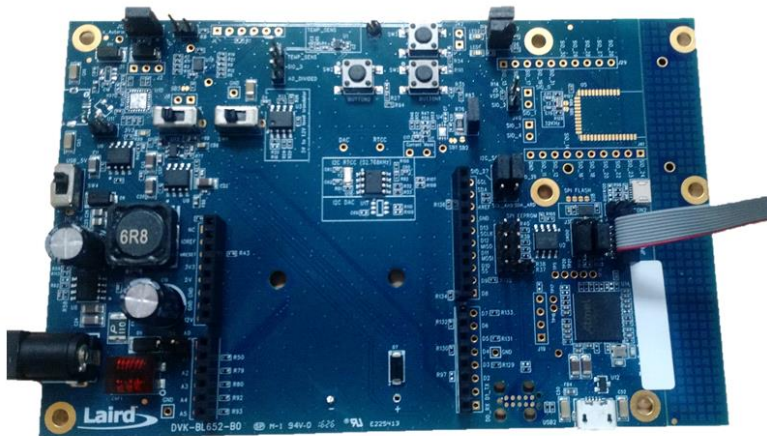

Figure 9: QPK-NRF5X programming board
1. Configure the QPK-NRF5X (the programmer board) as shown in Figure 9.